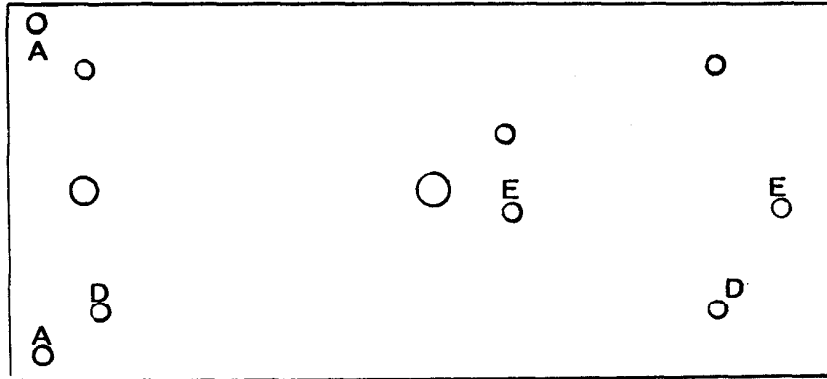

FIGURE 5-5 TOP PLATE
- 2) Extract the two screws marked "D" on the diagram of the top plate (Figure 5-5).
- 1) Extract screws on the top plate marked "E" on Figure 5-5. **DO NOT EXTRACT ANY OTHER SCREWS**